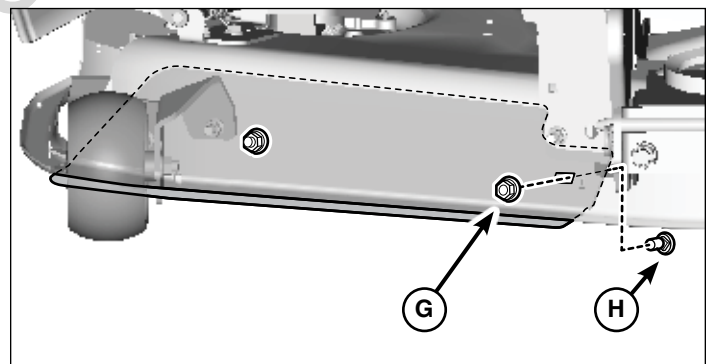

Figure 4
3. Attach the right side of the baffle with a carriage bolt (**H**, Figure 4) and a whiz lock nut (**G**). Make sure the blade does not come in contact with the baffle.